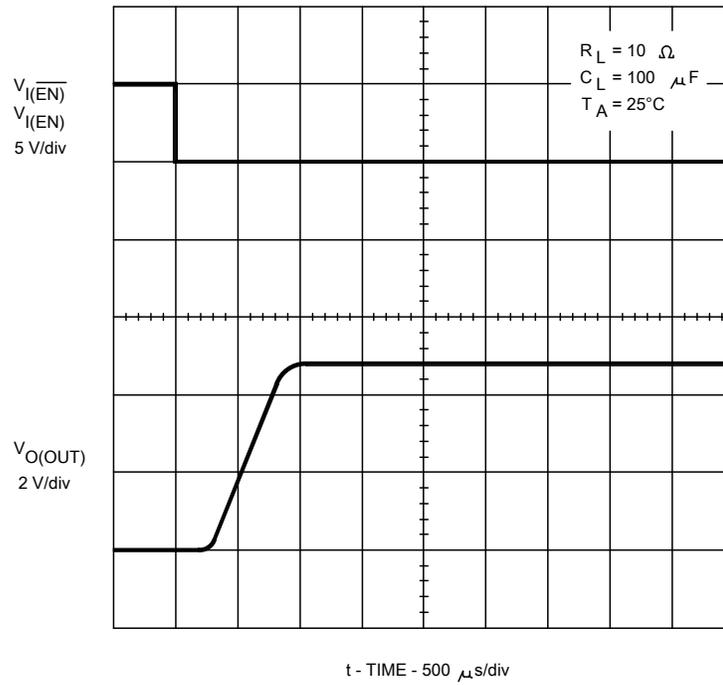

FIGURE 7. Turn-On delay and rise time with 100 μF load.
3.5.7 Turn on delay and rise time with 100 μ F load. The turn on delay and rise time with 100 μ F load shall be as shown in figure 7.